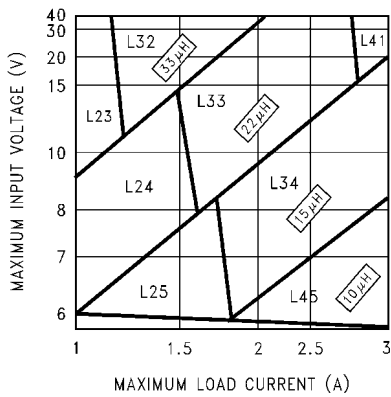
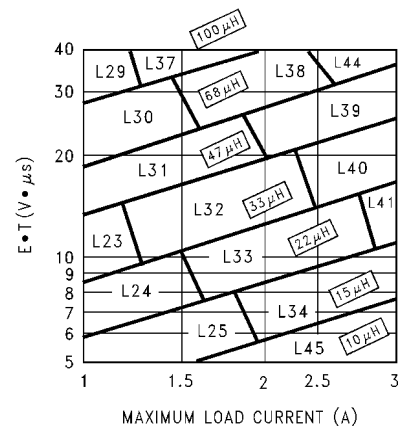

Figure 8-2. LM2676-3.3
Figure 8-5. LM2676-ADJ
Step 3: Determine the inductor required by using one of the four nomographs (Figure 8-2 through Figure 8-5). Table 8-3 provides a specific manufacturer and part number for the inductor.
Step 5: Determine an input capacitor from Table 8-7 or Table 8-8 for fixed output voltage applications. Use Table 8-1 or Table 8-2 to find the specific capacitor type. For adjustable output circuits, select a capacitor from Table 8-1 or Table 8-2 with a sufficient working voltage (WV) rating greater than $V_{IN\ max}$, and an RMS current rating greater than one-half the maximum load current (two or more capacitors in parallel can be required).
Step 3: Use the nomograph for the 3.3-V device (Figure 8-2). The intersection of the 16-V horizontal line (V_{IN} max) and the 2.5-A vertical line (I_{LOAD} max) indicates that L33, a 22- μH inductor, is required.